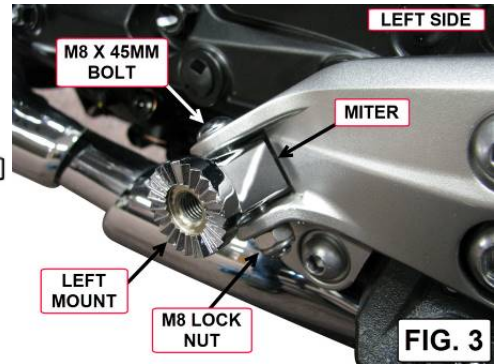

FIG. 3
4. USING THE M8 X 45MM BOLT SUPPLIED INSTALL THE LEFT MOUNT AS SHOWN IN FIG. 3. DO NOT INSTALL THE M8 LOCK NUT YET.
7. USE A 5MM ALLEN WRENCH TO KEEP THE M8 X 45MM BOLT FROM TURNING AND INSTALL AND TIGHTEN THE M8 LOCK NUT AS SHOWN IN FIG. 3.